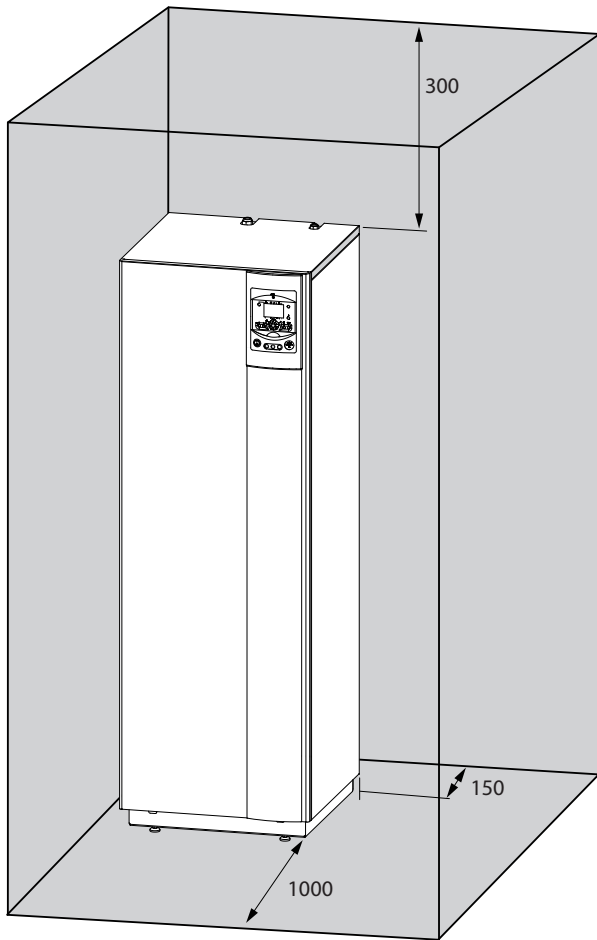

fig. 15 - Minimum installation clearances around the hydraulic unit
- To facilitate maintenance and allow access to the various parts, we recommend that you provide sufficient space all the way around the hydraulic unit (fig. 15).